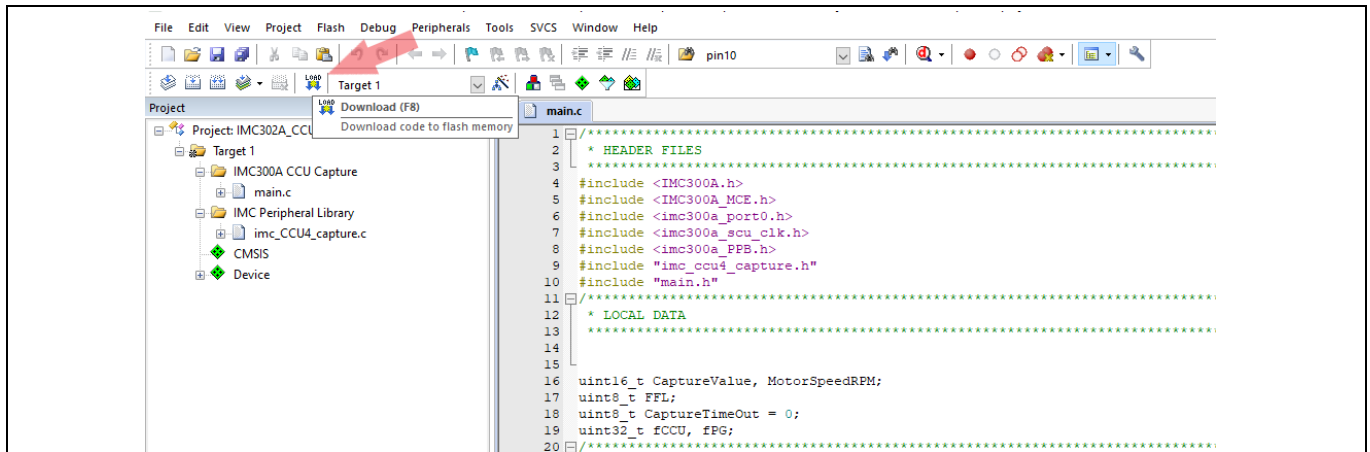

Figure 12 Keil µVision® IDE Load to Flash Memory
- 4) Press F8 or click the “Load” button in the top left corner to download the object file into the MCU’s flash memory as shown in Figure 12.